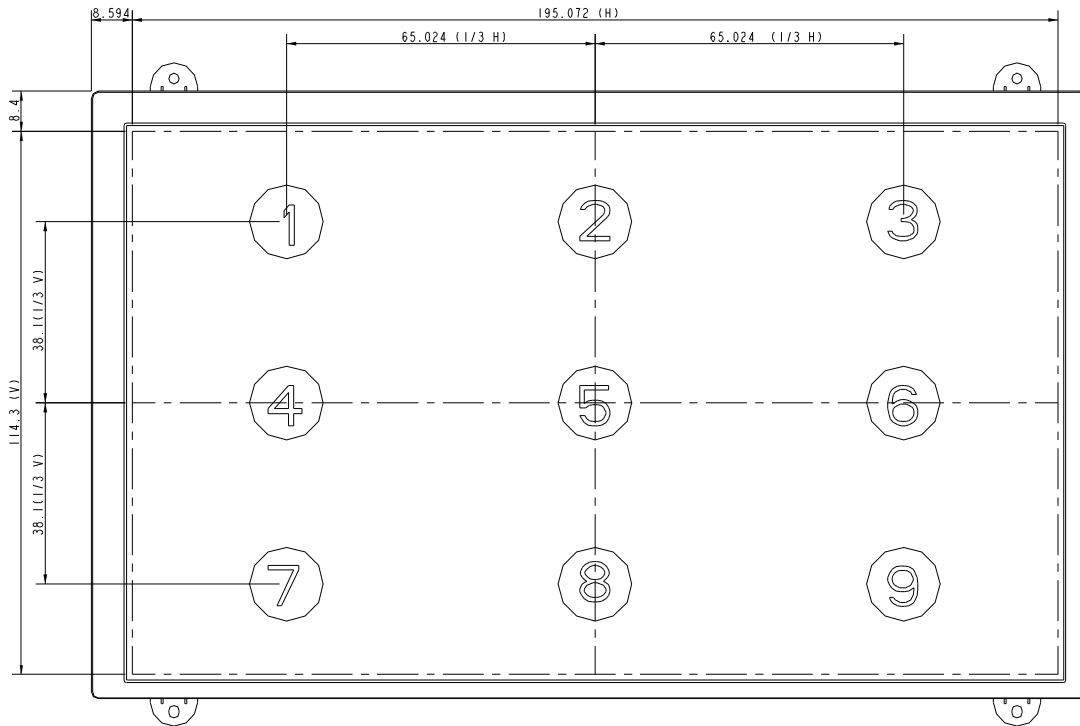

Fig. 8-1 Measuring point
- \*3) Definition of Luminance: Measuring white luminance on the point-5 as figure 8-1
- Definition of Luminance Uniformity: Measuring white luminance on the point1 to 9 as figure 8-1